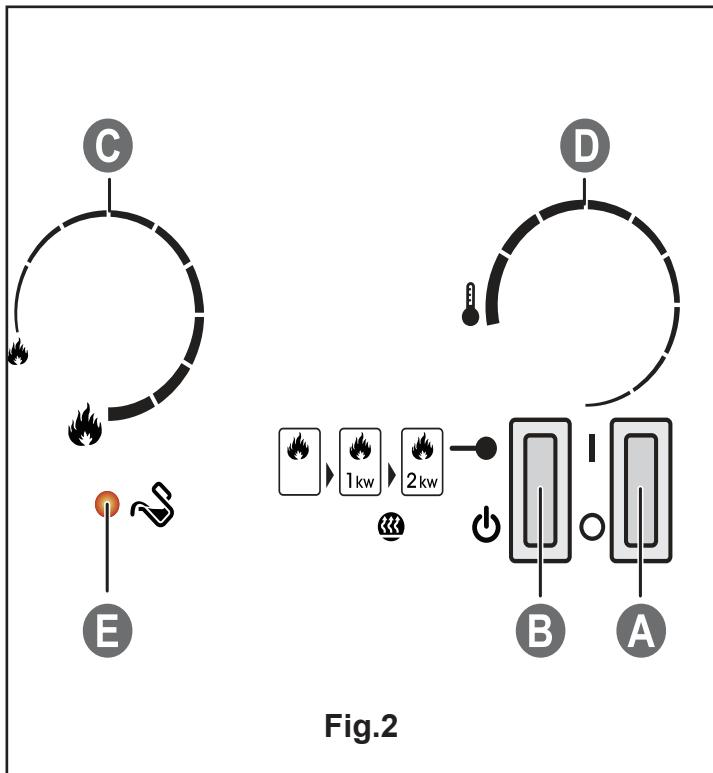

Fig.2
The Opti-myst Manual controls are located beneath the hinged canopy cover. Raise the canopy cover to access the controls. (See Fig.2 for Manual Control lay out)
To set the temperature you require, turn the thermostat control knob 'D' (See Fig.2) Anti-Clockwise until the desired temperature is reached. Alternatively to heat a cold room quickly, turn the thermostat control knob 'D' (See fig.2) up fully. When the room has reached the desired temperature, turn the thermostat control knob 'D' (See Fig.2) clockwise until the desired heat setting is achieved.
On the control panel, Switch A (see Fig.2) must be in the 'ON' (I) position in order for the remote control to operate. There are 3 buttons on the remote control. (See Fig.7) To operate correctly the remote must be pointed towards the front fuel effect.